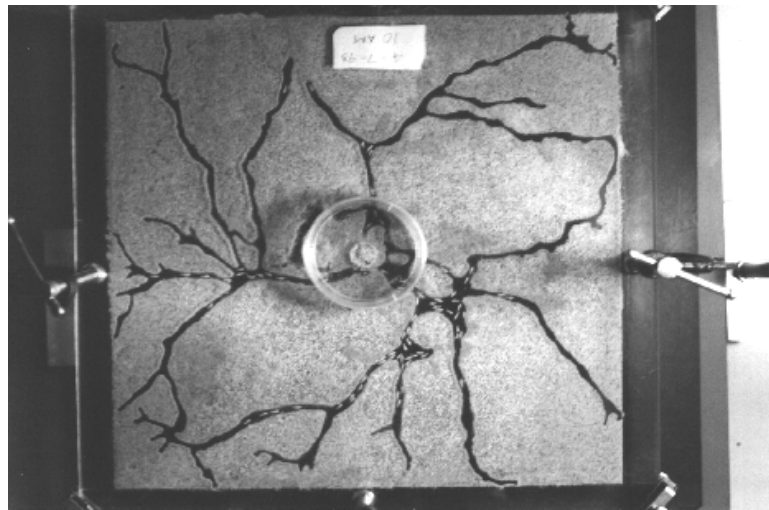

Figure 5.10: A typical termite colony after several days growth.
1. Your analysis should come from your observations as shown in Figure 5.10. Do the termites communicate? Do you think this affects their tunneling? Do you see evidence that later termites follow a path of odors (“pheromones”) laid down by earlier termites?